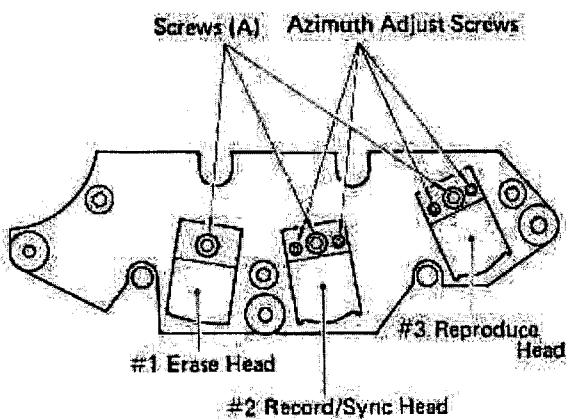

Fig. 9-7-5. Head Adjustment Screws
2. While observing the VU meters, temporarily increase the back tension to the left reel by lightly applying pressure by hand. If sufficient contact pressure is applied to the head while the tape is running, no change will be noticed on the meter when the back tension is increased. However, if insufficient pressure is applied to the head, the deflection needle will show increased deflection due to contact pressure caused by the back tension. To adjust, loosen the retaining screw (A), that'll be the center screw at the rear of the head as shown in Fig. 9-7-5. Then, change the direction of the head for proper alignment.
3. With the test tape signal at 16 kHz, determine the point where maximum level of each channel is obtained and retighten the retaining screws (A) at that position.